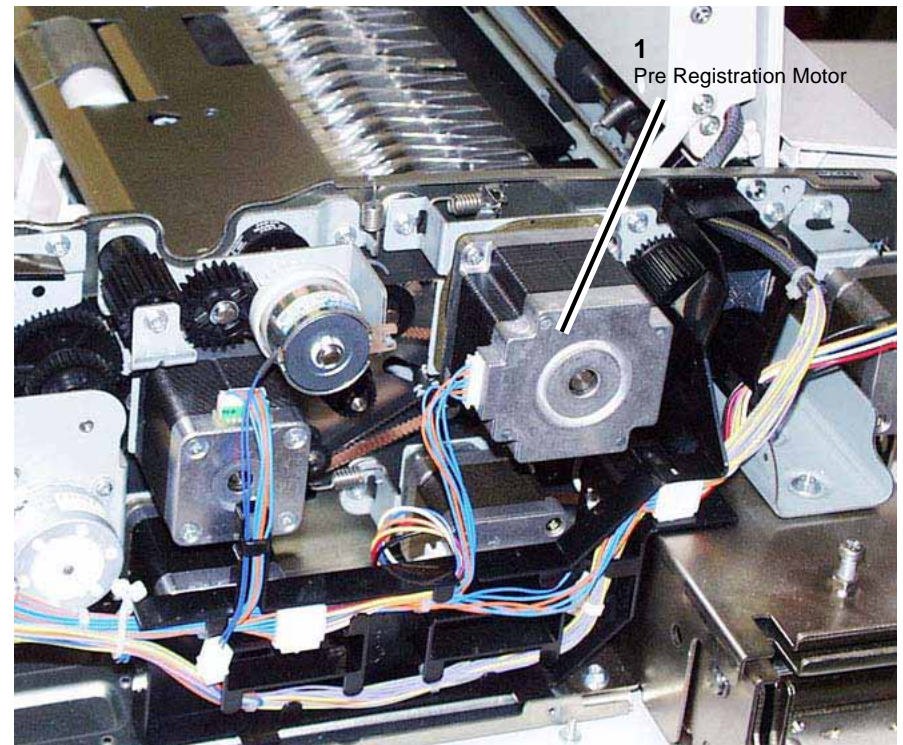

Figure 1 DADF Pre Registration Motor
3. With the Feeder Upper Chute open, remove (4) screws securing the Feeder Lower Chute in place. PL 14.12
5. At the rear of the DADF, loosen the screws used to secure the DADF Pre Registration Motor, to reduce the tension of the motor before removing the Pre Reg Motor Belt. Figure 1
- b. Loosen the (3) securing screws.